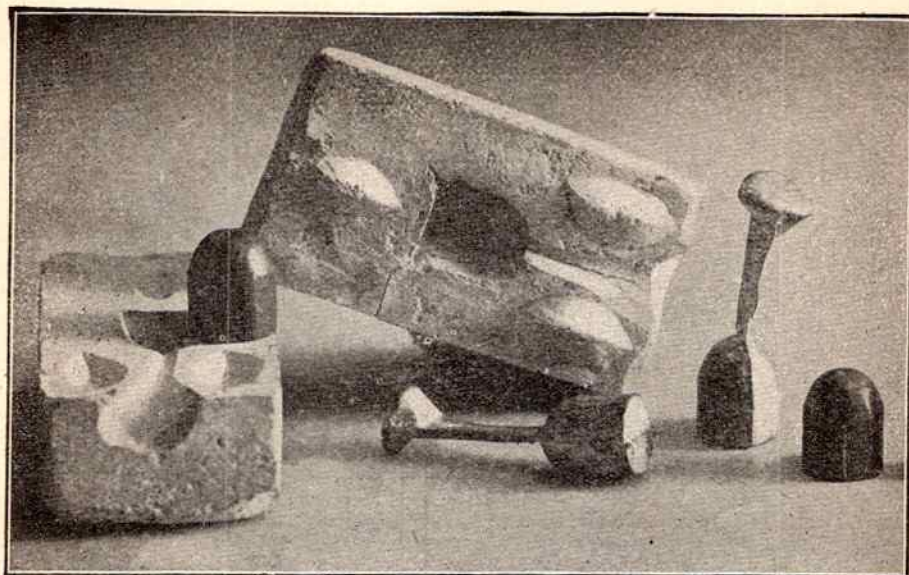

FIGURE 1
**F**OLLOWING the efforts of Dr. Mann and his associates in their endeavors to locate the cause of error in rifled arms, it will be noticed that the logical theory that a bullet must be seated concentric with bore of the rifle to secure accuracy of flight, early become a fixed conviction in their minds and strongly influenced all of their earlier experiments. In their attempts to prove this theory much original work was done, and many forms of bullet were tried. Figure 1 shows the original plaster-of-paris mould; the bullet standing on one-half of the plaster mould was first made from a simple chunk of lead and fitted by repeated swaging and passing the barrel and trimming with jack knife until the rifle grooves were comparatively perfect on its sides, its oval points centrally balanced, and base at right angles to the body. Then the plaster-of-paris mould was made by aid of the first bullet and several others were cast in it, one of which represented at the lower right hand corner of the illustration. These bullets were used in the old .44 caliber muzzle loader but the most careful methods of loading, aiming and holding by the eager young investigators failed to disclose the cause of the error as it had already been named. In 1879 the experimental work was
Figures 1, 2, 3 and 4 were cast from a home-made steel mold 12 years prior to experimenting with those represented in the upper row, and were made to use in F. Wesson's .32 caliber rim-fire rifle.